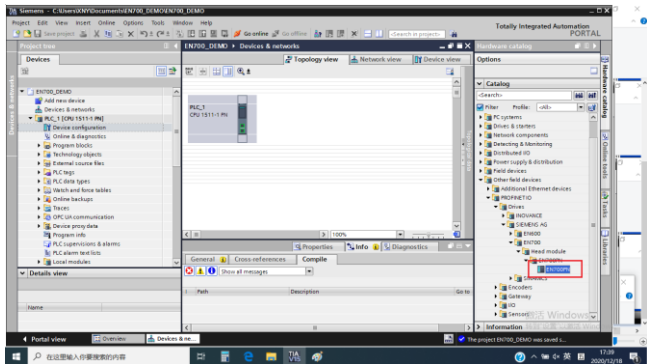

Figure 4-11
(5) Double-click "EN600PN" to add the EN600 Profinet device to the device configuration. Figure 4-11